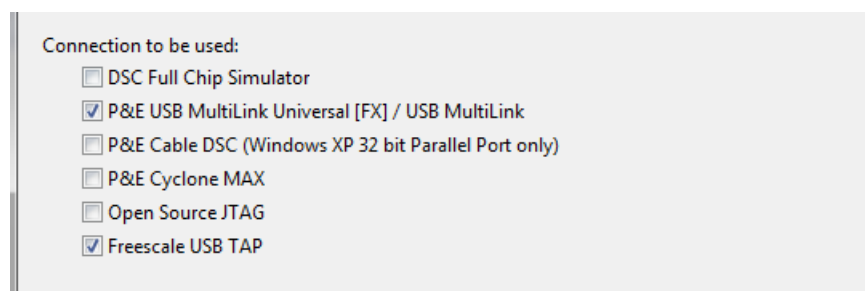

Figure 1-3. Connection selection
6. Now select the connection that will be used to download and debug the application. In this case, select the option P&E USB MultiLink Universal[FX] / USB MultiLink and Freescale USB TAP, and click Next. See Figure 1-3.